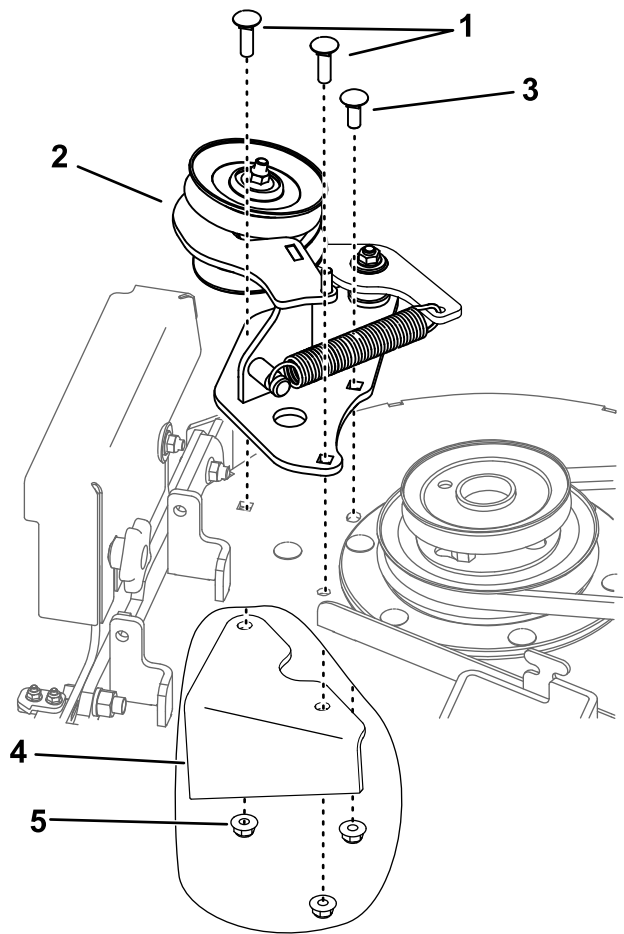

Figure 5
- Using the 3 nuts that you removed previously, 1 carriage bolt ($3/8 \times 1-1/4$ inches), and 2 carriage bolts ($3/8 \times 1$ inch), install the idler assembly to the mower deck (Figure 5).
- Using the 3 nuts that you removed previously, 1 carriage bolt (3/8 x 1-1/4 inches), and 2 carriage bolts (3/8 x 1 inch), install the idler assembly to the mower deck (Figure 5).